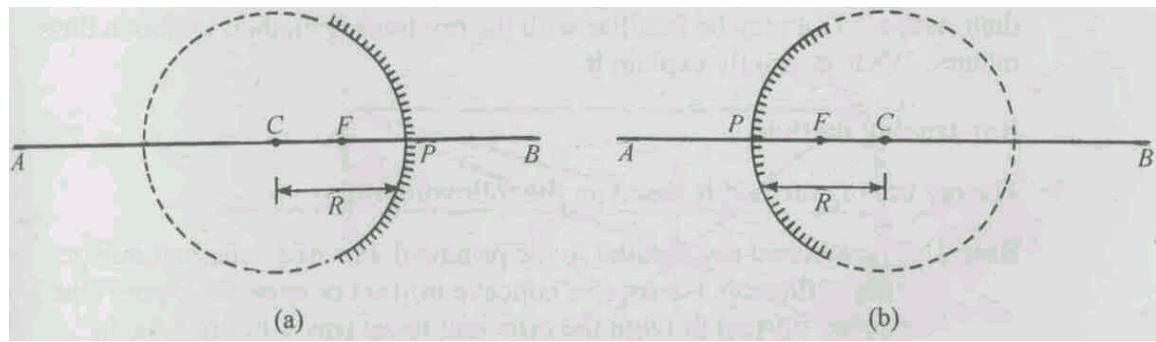

Fig. 4.6: (a) A concave mirror; and (b) a convex mirror
A spherical mirror is obtained by cutting a piece from a hollow glass sphere and coating one of its surfaces with a shiny metal. In the plane of the paper, we draw them as part of a circle. There are two types of spherical mirrors, namely the **concave mirror** and the **convex mirror**, as shown in Fig.4.6. The characteristics of the image formed by these mirrors are quite different from those of a plane mirror. To study image formation by spherical mirrors, you must recapitulate some of the important terms and definitions associated with them. Now we briefly explain them.
Again refer to Fig.4.6. For both types of mirrors, C is the **centre of curvature**; P , centre of the mirror, is the **pole**; and CP , denoted by R , is the **radius of curvature**. The line AB passing through the centre of curvature (C) and the pole (P) of the mirror is called the **principal axis**; F , the mid point of CP , is the **focus of the mirror**; and FP , the distance between the focus and the pole, is the **focal length f** .